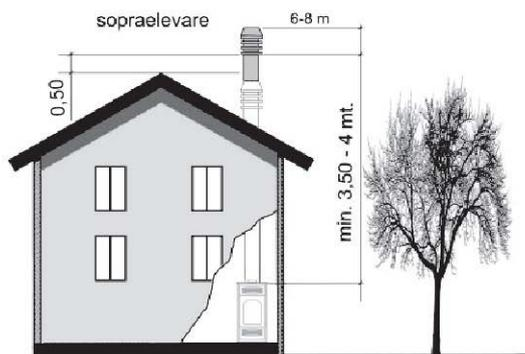
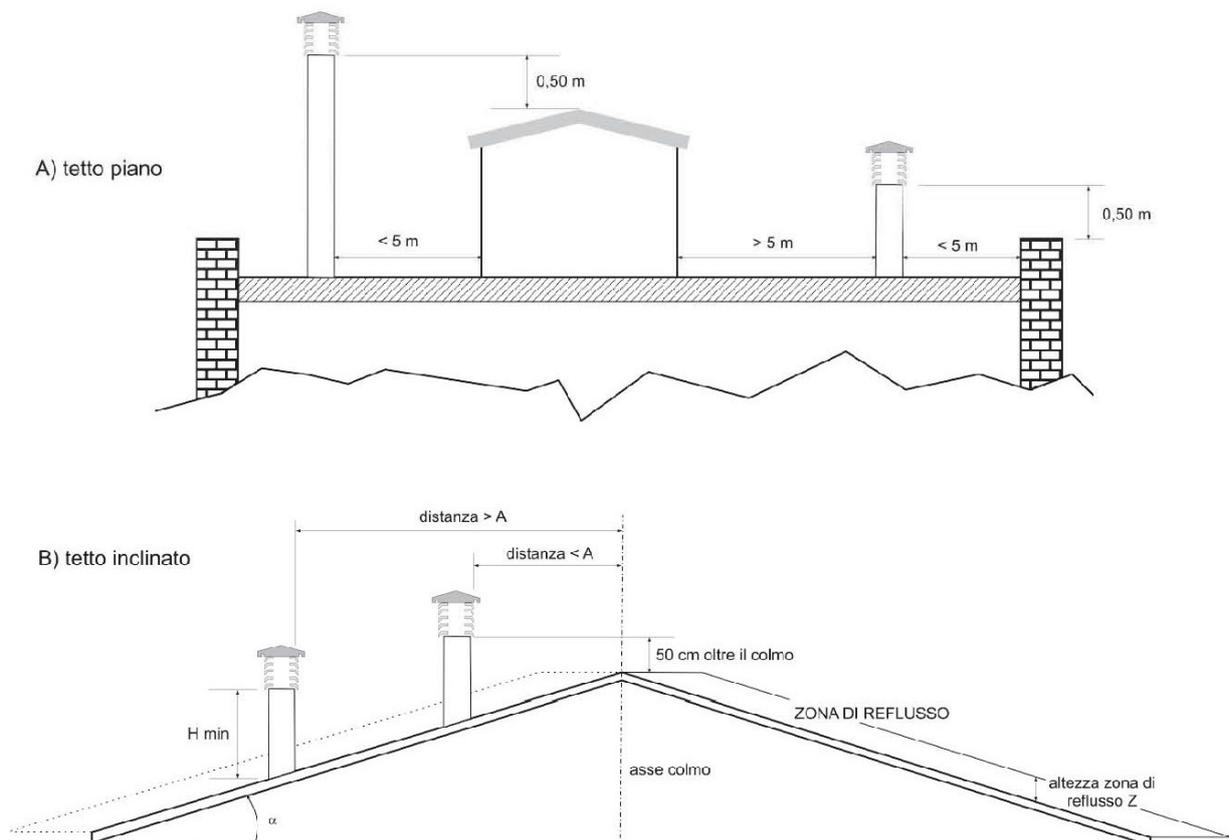

Fig.4
Fig. 5
- The chimney pot must be positioned so as to guarantee an adequate dispersion and dilution of combustion products and, in any case, outside the zone of reflux. This zone can be of different sizes and shapes depending on the angle of slope of the roof, so it is necessary to adopt the minimum heights shown in *fig.4* and *fig.5*.
- The chimney pot must be of wind-proof type and exceed the height of the ridge, *fig.4* and *fig.5*.
- Any buildings or other obstacles that exceed the height of the chimney pot must not be close to the chimney pot itself (*fig.4*).